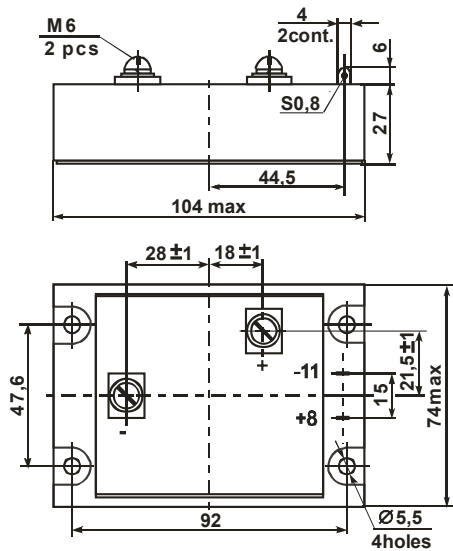

Figure 6.2 – Overall drawing of modules MT14, MT15D with maximum current 120, 160 A
**MT14A(B)-PP2** – a module based on MOSFET-transistor shunted with a reverse fast-recovery diode in a housing corresponding to Fig. 6.2.
**MT14PTA(B)-PP2** – a module based on MOSFET-transistor shunted with a reverse fast-recovery diode in a housing corresp. to Fig.6.2 with inbuilt protection circuits.